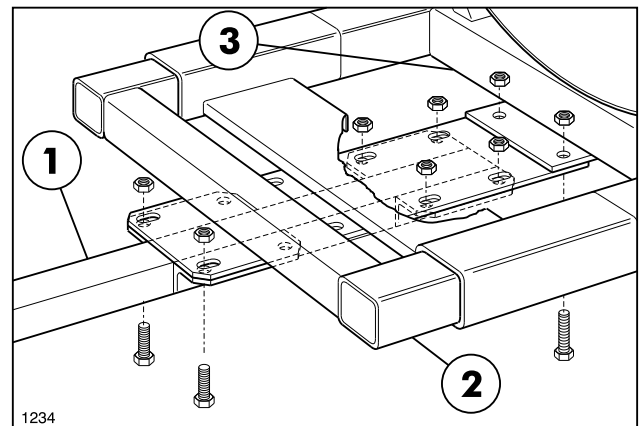

FIG. 3
7. Mount the Tongue Assembly to the underside of the Tongue Adapter and Skid Frame as shown in FIG. 3, using (6) 1/2" x 1-1/4" hex hd. cap screws, (2) 1/2" x 1-1/2" hex hd. cap screws, (8) flange locknuts. Torque to 75 ft. lbs (102N-m).